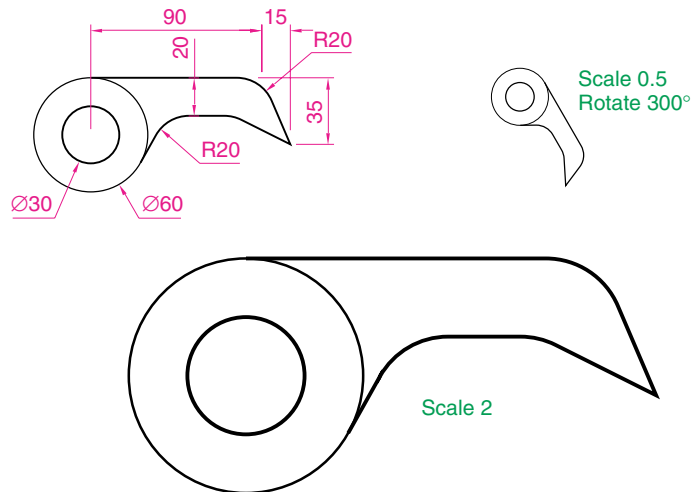

Fig. 5.54 Exercise 8
8. Construct the dimensioned drawing of Fig. 5.54. With **Copy**, copy the drawing. Then with **Scale** scale the drawing to a scale of **0.5**, followed by **Rotate** to rotate the drawing through an angle as shown. Finally scale the original drawing to a scale of **2:1**.